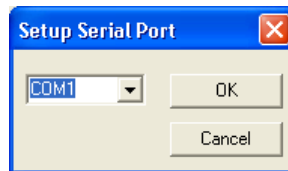

Figure 4 - Setup Serial Port Dialog
1. Choose **Setup** ➔ **Serial Port** from the main menu. The Setup Serial Port Dialog (Figure 4) appears.